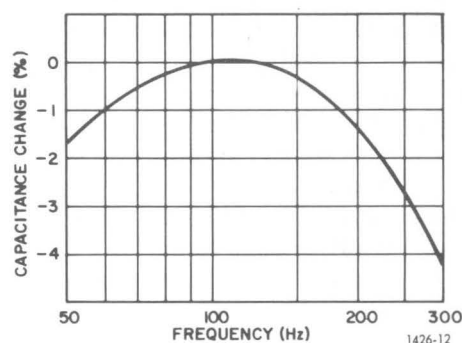
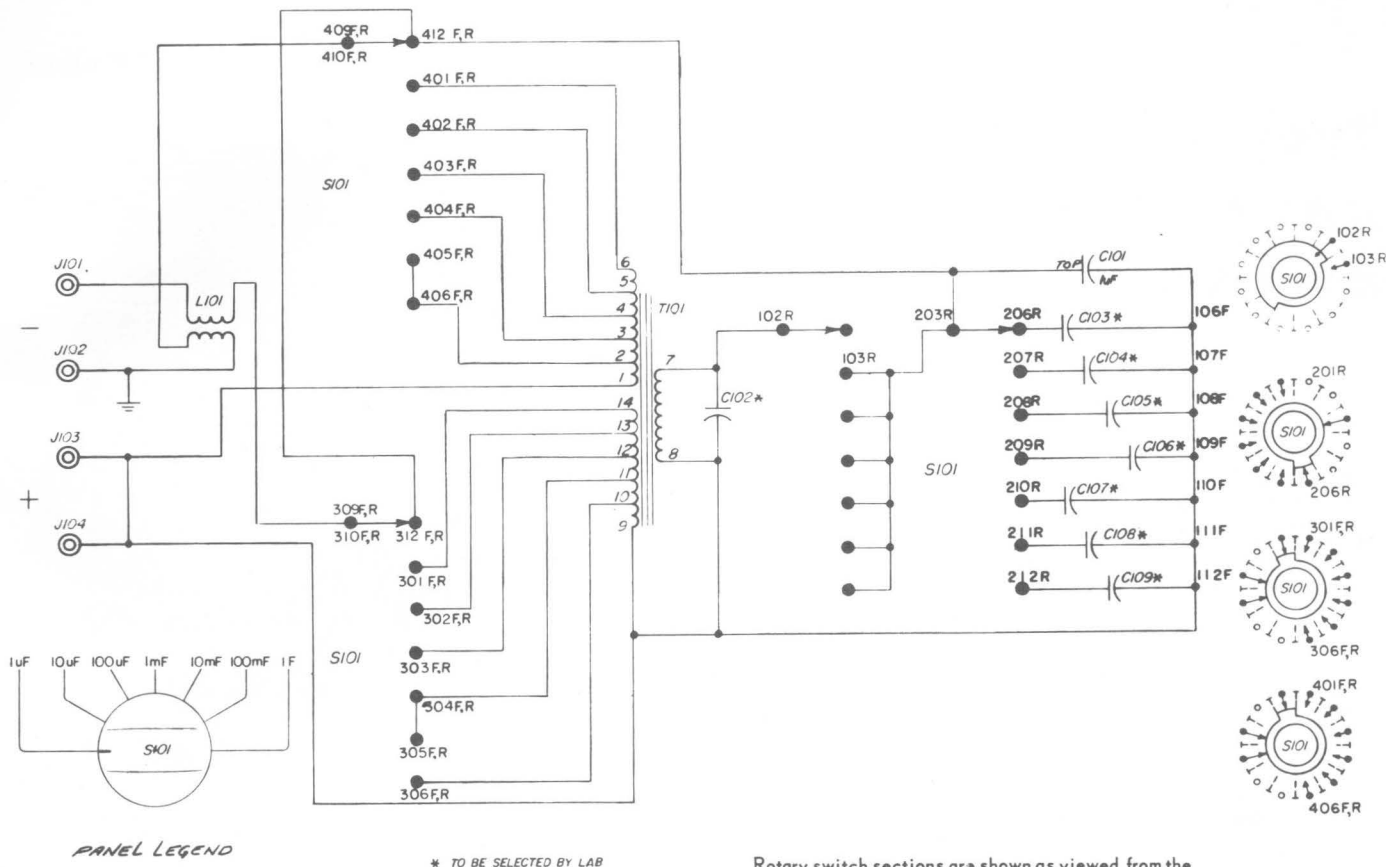

Figure 2-7. Typical frequency response of a 1426 Four-Terminal Capacitance Standard.
Figure 4-1. Schematic diagram of 1426
A dc voltage of 100 V may be applied to the 1 μF standard (see Figure 4-1). At other settings, the transformer makes a dc connection between the high and low terminals and a large dc current will flow if a dc voltage is applied. Excessive dc current (over 100 mA) can cause a small and permanent change (less than 1/4%) in capacitance.
At the 1 μF setting (see Figure 4-1), the 1426 is a true capacitor and it is accurate over a wide frequency range. It has a resonant frequency at 170 kHz. At the other settings, the 1426 is quite frequency dependent. A typical response curve showing the percentage of capacitance change with a change of frequency is shown in Figure 2-7. Use the curve for all but the 1 μF setting.
Circuit-theory experts will quickly realize that the curve in Figure 2-7 cannot be explained by a
1. Change in the value of the standard 1 μ F capacitor (see Figure 4-1) which can change with time and temperature changes. However, this capacitor can be checked at 120 Hz, using any capacitance bridge of adequate accuracy (the GR 1615, for example). The capacitance values at all other settings will change proportionally and the same percent of correction used for the 1 μ F value will apply to the values at all other settings.
2. Change in the value of a padding capacitor (see Figure 4-1). These capacitors account for about 2% of the value at any setting. Thus, for a total change 1/4%, the padding capacitor would have to change 12.5%. Such a change is unlikely.